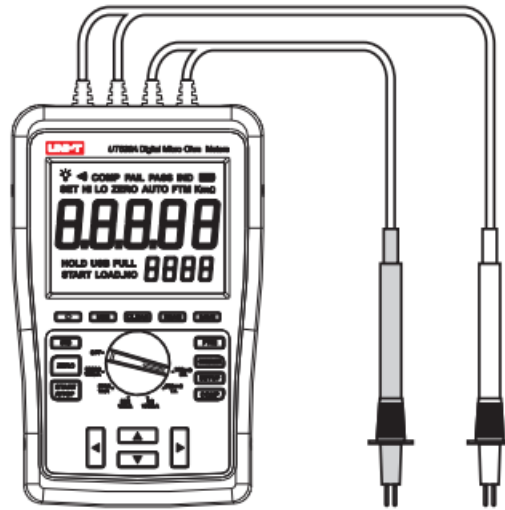

Figure 7
1. Connect 4-wire test leads to P1, P2, C1 and C2 terminals of the meter, See Figure 7